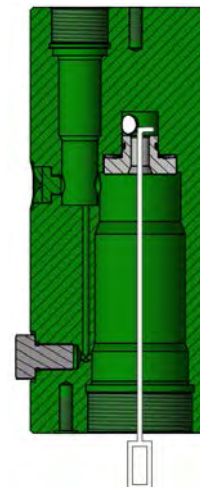

Figure 11 – Seat Removal
- 12.3 Carefully remove the seat (see Figure 11). – *Brass hooked probe*
- 12.7 Insert the seat into the body by slowly pushing with a tool which will not chip the ceramic seat. Orient the seat with smallest diameter end into the body (see Figure 11).
- 13.1 If needed, ensure that the seat is placed in the valve per Figure 11.